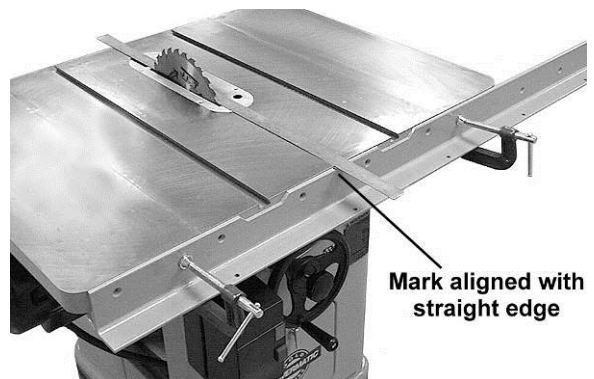

Figure 23
3. Lay a straight edge flush against the right side of the saw blade, as shown in Figure 23, and place the notched side of the *front rail* against the saw table as shown. Hold *front rail* to the saw table with clamps. Make sure the mark on the *front rail* lines up with the left edge of the straight edge (and thus in line with the blade).